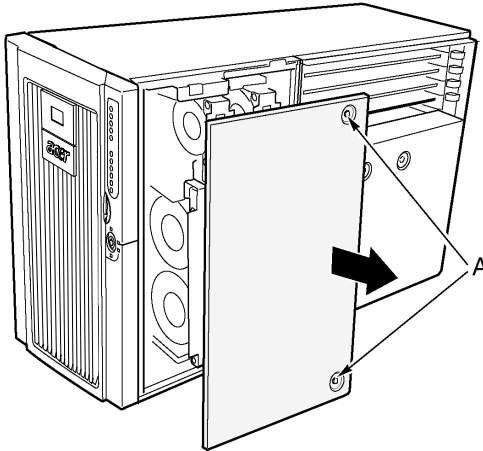

Figure 13 - Removing the front access panel
- 2 Release the two captive panel screws (Figure 13, A).